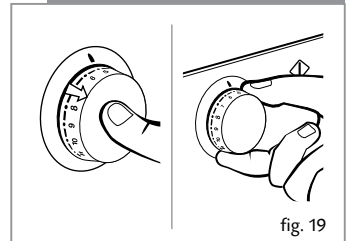

fig. 19
- Press the programme selector dial to release it (Figure 19).
- Select the wash programme by turning the programme selector dial (Figure 19 - See programme table).